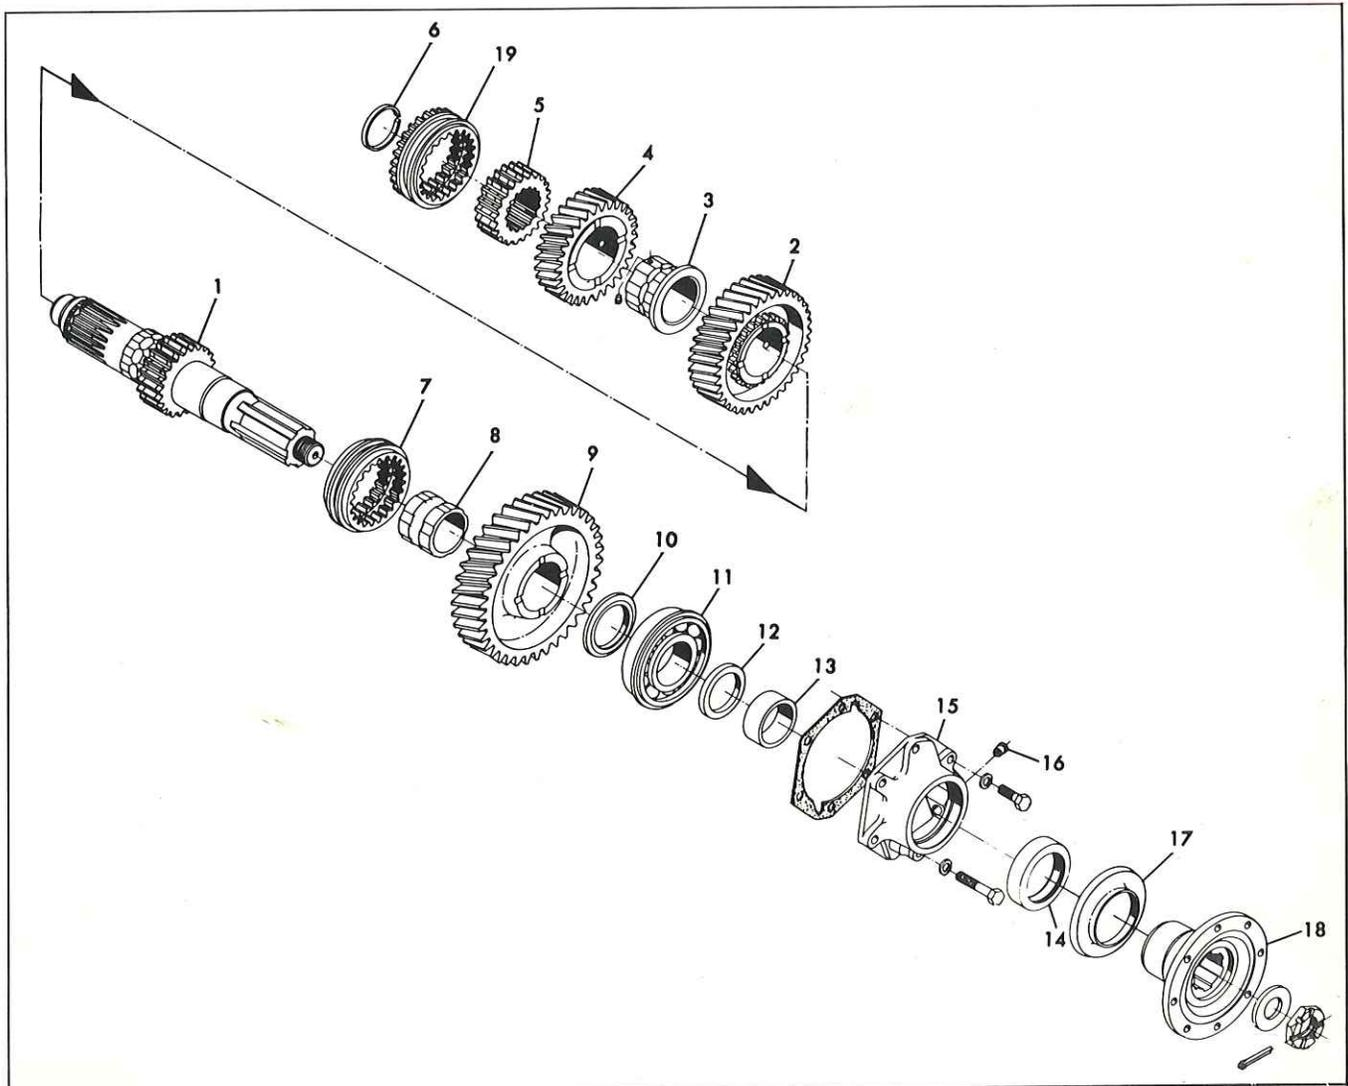

Fig. 10—Mainshaft and Rear Bearing Details
6. Locate shift fork in its proper position and secure to shift rod with set screw (5). Tighten set screw securely in notch and torque to 50 lbs. ft. Secure with lockwire.
7. Locate 1st-2nd shift rod in neutral position and drop interlock pin (11) through hole provided in top right corner of case. Be sure interlock is seated in neutral notch of shift rod.
8. Enter 3rd-4th speed shift rod (8) in top shift rod opening.
9. With long hub toward the front, assemble 3rd-4th speed shift fork (6) in 3rd-4th speed clutch collar (19), Figure 10. Pass shift rod through shift fork and rear case boss.
10. Locate shift fork in its proper position and secure to rod with set screw (5). Tighten set screw securely in notch and torque to 50 lbs. ft. Secure with lockwire.
11. Assemble poppet ball (4), spring (3) and spring retainer (2) in lower hole on right side of transmission case.
16. Assemble transmission case cover (1) to case and secure with capscrews, lockwashers and stud nuts.
**Mainshaft (Figure 10)**